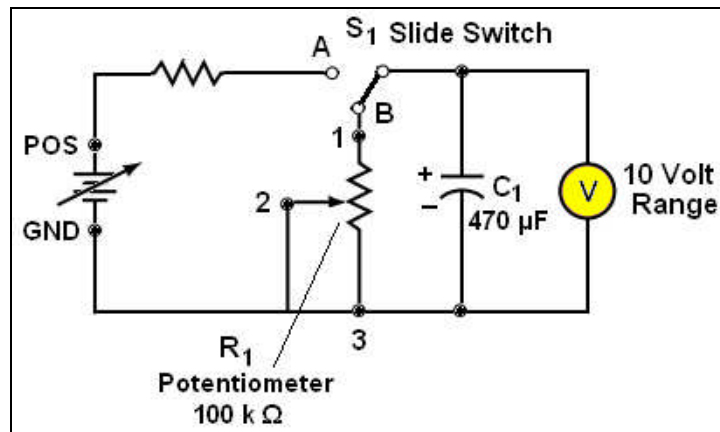

Fig. 1-3 Circuit for Plotting the Discharge Curve
21. Without disturbing the setting of the 100 K Ohm potentiometer, construct the circuit shown in Fig. 1-3. Be sure to observe polarity when connecting the 470-microfarad capacitor.